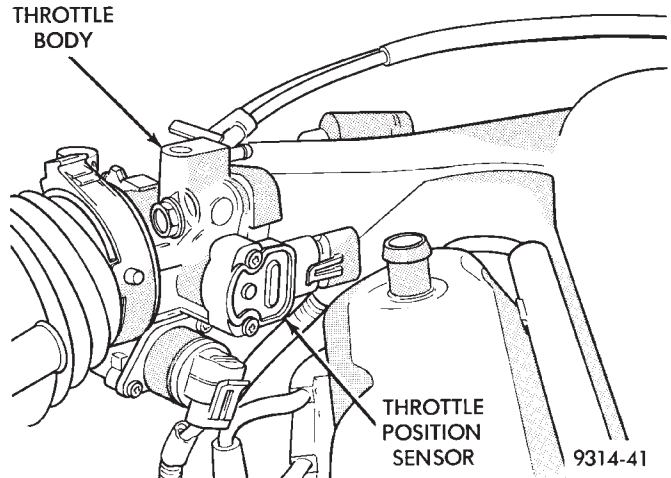

Fig. 17 Throttle Position Sensor—3.3L Engine
(8) Disconnect purge hose from throttle body. Disconnect electrical connector from throttle position sensor and idle air control motor (Fig. 17).